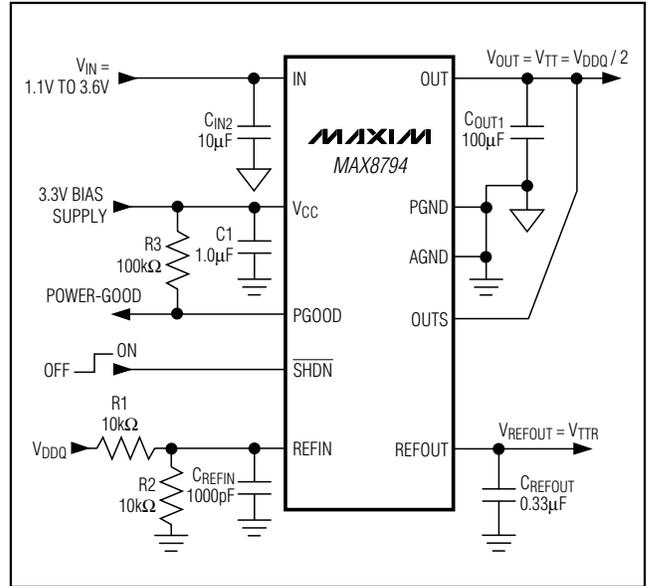

Figure 1. Standard Application Circuit
(V_{IN} = 1.8V, V_{CC} = 3.3V, V_{REFIN} = V_{OUTS} = 1.25V, SHDN = V_{CC}, circuit of Figure 1, T_A = -40°C to +85°C, unless otherwise noted. Typical values are at T_A = +25°C.) (Note 1)
($V_{IN} = 1.8V$, $V_{CC} = 3.3V$, $V_{REFIN} = V_{OUTS} = 1.25V$, $\overline{SHDN} = V_{CC}$, circuit of Figure 1, $T_A = -40^{\circ}C$ to $+85^{\circ}C$, unless otherwise noted. Typical values are at $T_A = +25^{\circ}C$.) (Note 1)
(Circuit of Figure 1. $T_A = +25^\circ\text{C}$, unless otherwise noted.)
The MAX8794 is a low-voltage, low-dropout DDR termination linear regulator with an external bias supply input and a buffered reference output (see Figures 1 and 2). V_{CC} is powered by a 2.7V to 3.6V supply that is commonly available in laptop and desktop computers. The 3.3V bias supply drives the gate of the internal pass transistor, while a lower voltage input at the drain of the transistor (IN) is regulated to provide V_{OUT}. By using separate bias and power inputs, the MAX8794 can drive an n-channel high-side MOSFET and use a lower input voltage to provide better efficiency.
The MAX8794 regulates OUTS to the voltage set at REFIN, making the MAX8794 ideal for memory applications where the termination supply must track the supply voltage. Typically, REFIN is set by an external resistive voltage-divider connected to the memory supply (V_{DDQ}) as shown in Figure 1.